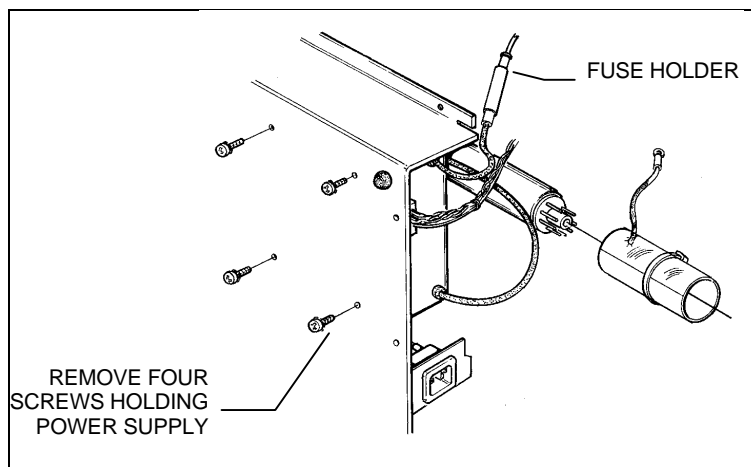

Figure 6-32. Removing the High Voltage Power Supply
2. Turn the unit on its side and identify and remove four screws which hold the High Voltage Power Supply to the Pan Assembly. Use care since the power supply will shift once the last screw is removed. (Figure 6-32)